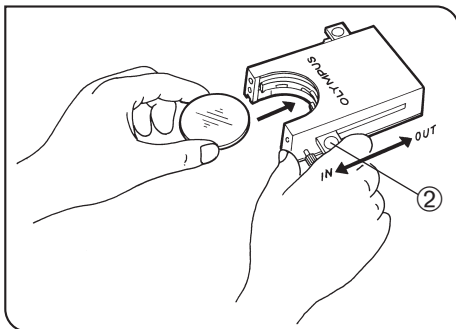

Fig. 19
Using the Filter Cassette (Figs. 19 to 22)
2. Slide the lever ② to the IN position. Make sure that it clicks securely into place. (Fig. 19)
3. Holding the lever in the position shown in Fig. 19, put the filter into the cassette by inserting it in the direction indicated by the arrow.